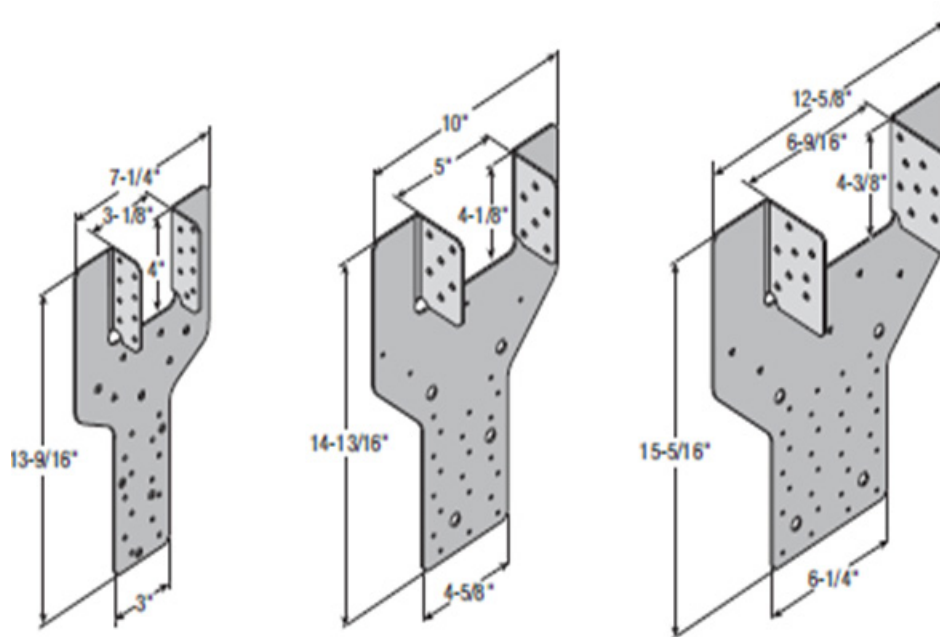

Figure 1. PHGT and PHHGT Post-install Girder Tie Downs
- 1.1 PHGT2, PHHGT3 and PHHGT4 connectors are tie downs used to join 2-ply, 3-ply or 4-ply girder trusses to wall frames or posts. PHGT connectors are cold-formed from 14-gauge (PHGT2) and 12-gauge (PHHGT3 and PHHGT4) steel with a specified ultimate tensile strength, F_u , of 70 ksi, and a specified yield strength, F_y , of 50 ksi. PHGT connectors are pre-punched for 10d common nails. See **Figure 1** and **Table 1** for fastening schedules and design values.